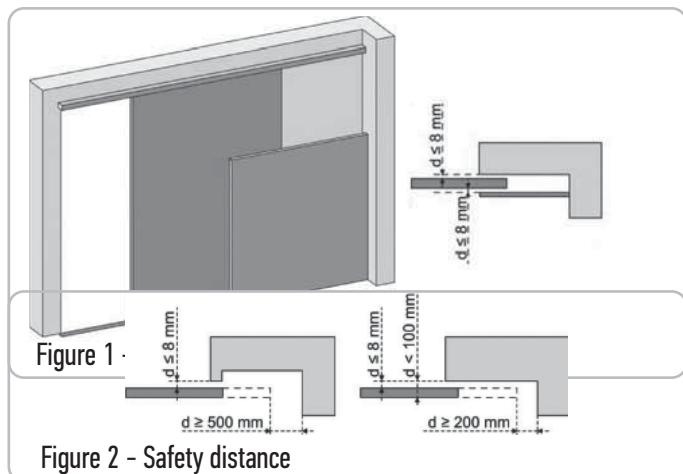

Figure 2 - Safety distance
ZONE 2 Risk of crushing with an adjoining fixed part	Obstacle detection built into the motorisation. It must be imperatively checked that the obstacle detection complies with annex A of the standard EN 12 453. Mechanical protection (see figure 1) or via safety distances (see figure 2)
2.2 Scope of application - Fig. 2
Types of doors (Fig.2)
Door dimensions (Fig. 2)